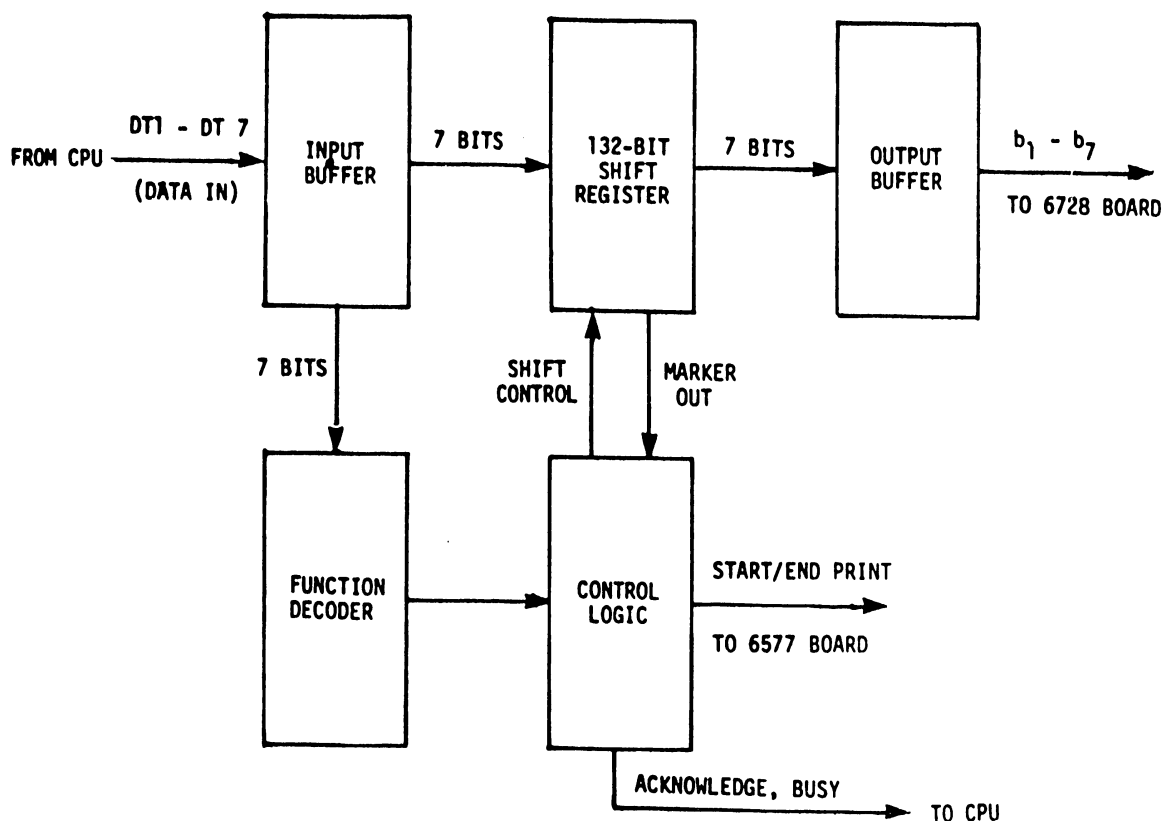

FIGURE 4-9 BLOCK DIAGRAM OF 6576/7076 BOARD
4.3.3.1 6576 Operation - See Figure 4-9